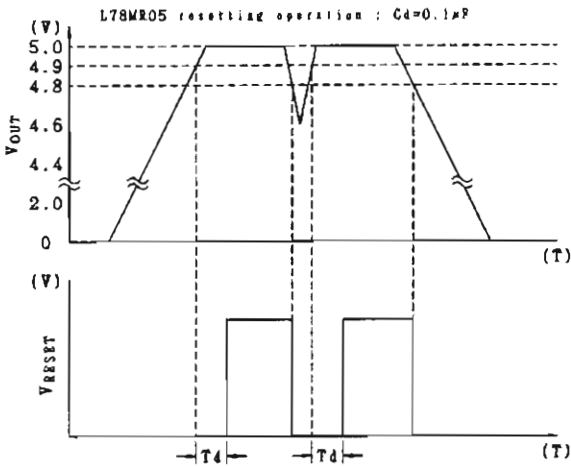

Figure 7
The microprocessor \overline{RES} input is set so the signal is applied slightly after the rising of VDD (power ON), and slightly before the trailing time (power OFF). This time lag is determined by C809 connected to IC pin②. Figure 7 shows the timing diagram.